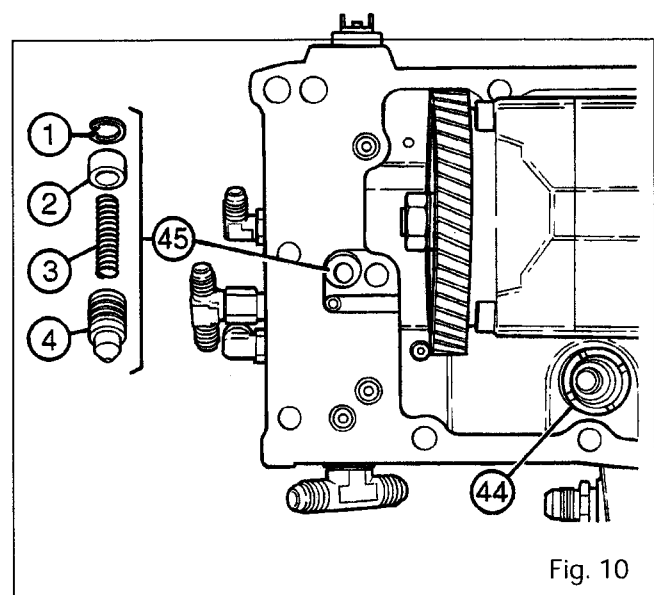

Fig. 10
- To remove the safety valve **(45)** on the LP circuit, compress the spring **(3)** with a screwdriver and remove the circlip **(1)**. Remove components **(2)** to **(4)** (Fig. 10). Check that the valve **(4)** slides freely in its housing.